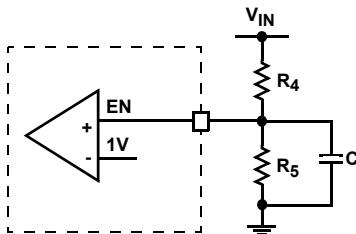

FIGURE 37. EXTERNAL RESISTOR DIVIDER
When the input voltage is below the undervoltage lockout (UVLO) threshold, the regulator is disabled. To adjust the voltage level of power on and UVLO, use a resistive divider across EN. The input voltage programming resistor  $R_4$  will depend on the bottom resistor  $R_5$ , as referred to in Figure 37. The value of  $R_5$  is typically between 10k $\Omega$  and 100k $\Omega$ .
The enable (EN) input allows the user to control the turning on or off the regulator for purposes such as power-up sequencing. When the regulator is enabled, there is typically a 600 $\mu$ s delay for waking up the bandgap reference and then the soft-start-up begins. It is recommended that the EN voltage should be kept logic low (less than 400mV), until  $V_{IN}$  reaches 2.5V. Refer to Figures 37 and 38 for suggested circuit implementation with  $V_{IN}$  slew rate.